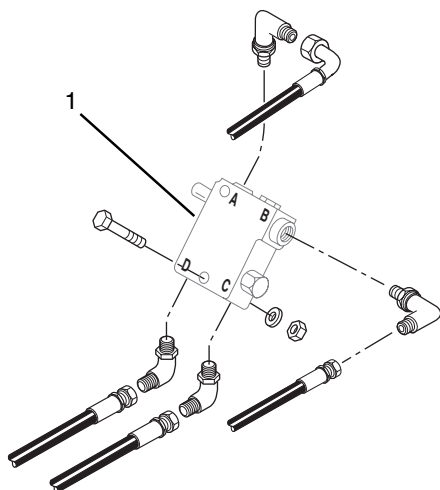

Figure 4-32 Self Level Valve Assembly Removal
4. Locate the self level valve (Fig. 4-32, 1) on the inside of the frame .
6. Tag and remove all hydraulic hoses from the hydraulic fittings on the self level valve assembly (Fig. 4-32). Cap or plug all hoses and ports in the valve housing.